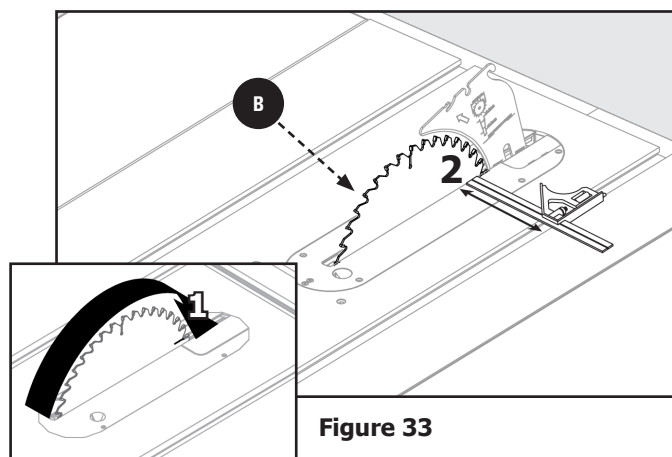

Figure 33
2. Turn blade **B** so that marked tooth (1) is at back. Move combination square to the rear and again measure the distance (2). If the distances are the same, blade **B** is parallel. See Figure 33.